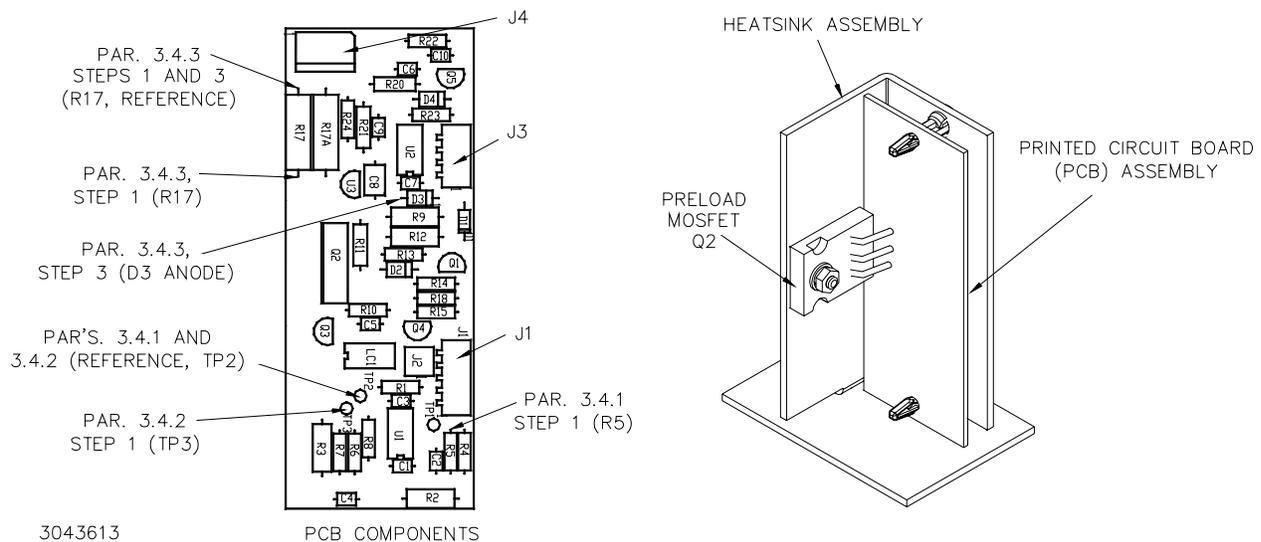
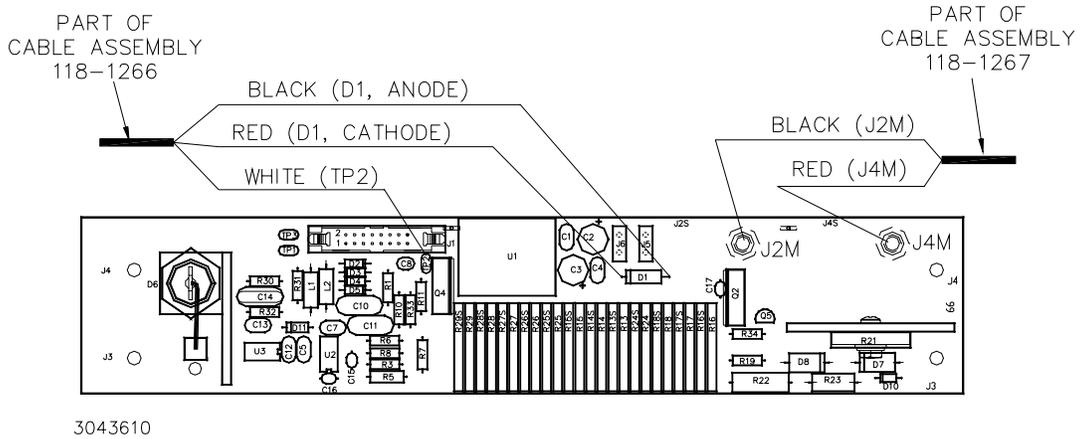

FIGURE 1. TRANSITION CIRCUIT ASSEMBLY, COMPONENT LOCATIONS
FIGURE 3. A4A8 COMPONENT LOCATION/WIRING
The Transition Circuit assembly Printed Circuit Board (PCB) is shipped assembled to the Heatsink with the pre-load-MOSFET mounted directly on the heatsink (Figure 1).
2. Cable assembly P/N 118-1267 (provided in the Kit) has a 3-pin connector with two wires, each having non-isolated ring lugs. Remove the screws and lockwashers from J4M and J2M on A4A8, then add the wires from the cable assembly to the wires already connected to J4M and J2M as follows (see Figure 2 for the location of A4A8 in the chassis, Figure 3 for location of J4M and J2M and Figure 6 for cable routing):
3. Install the 4-pin cable assembly (P/N 118-1266) on Transition Circuit A7A3J3 of the PCB (see Figure 1). Route the cables as shown by Figure 6. This cable has three (3) unterminated wires. Determine the needed length, cut the wire and remove the insulated sleeving (approximately 0.15"), then solder each wire to the indicated point (see Figure 3 for A4A8 component locations and Figure 6 for cable routing):
4. Install the 5-pin cable assembly (P/N 118-1265) on Transition Circuit A7A3J1 (see Figure 1) of the PCB. Route the cables as shown by Figure 6. This cable assembly has a 5-pin connector with five (5) unterminated wires. Determine the needed length, cut the wire and remove the insulated sleeving (approximately 0.15"), then solder each wire to the indicated point of assembly A2A5 (see Figure 4 for location of wire attachment points and Figure 6 for cable routing):
1. With the unit turned off, connect a DVM (set for DC voltage measurements) to Transition Circuit A7A3R5 (end closest to A7A3J1; see Figure 1), referenced to TP2.